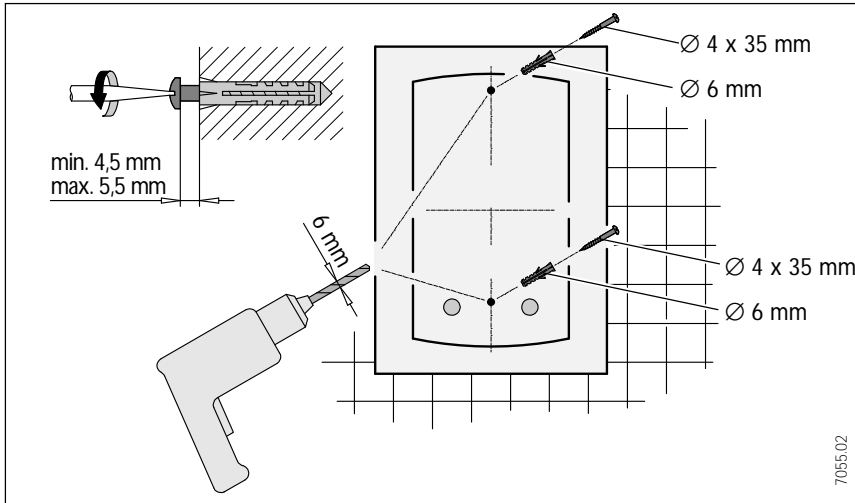

Fig. 8
4. Determine the position of the drillholes with the aid of the installation **template** (pages 16 and 17). Press the **dowels** in and insert the **screws** (check the depth to which the screws are inserted; see Fig. 8).